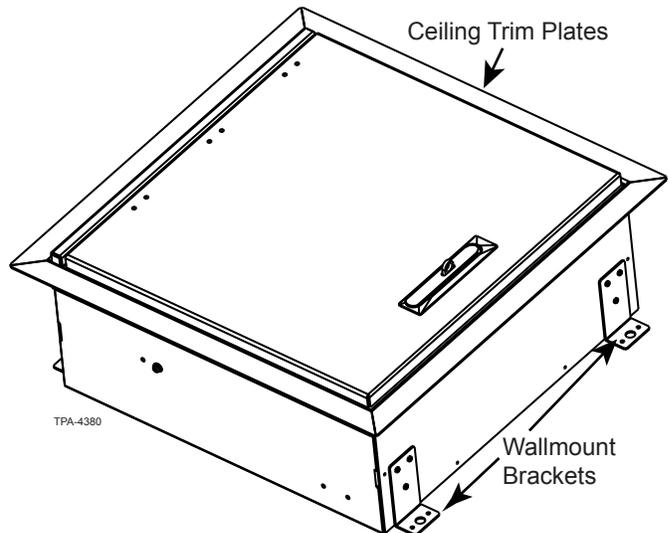

Figure 10
Step 2: Install ceiling trim plate kit (p/n FZB-04U-CLG) as shown in Figure 10.